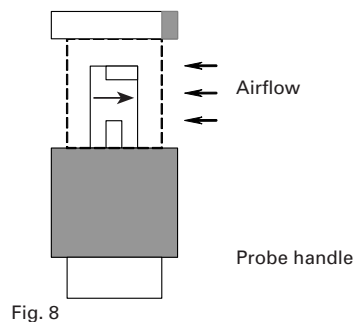

Fig. 8
7. Place the probe head in the air stream. There are two white arrows on each side of the probe head (refer to Fig. 8). These arrows should point in the same direction as the airflow.